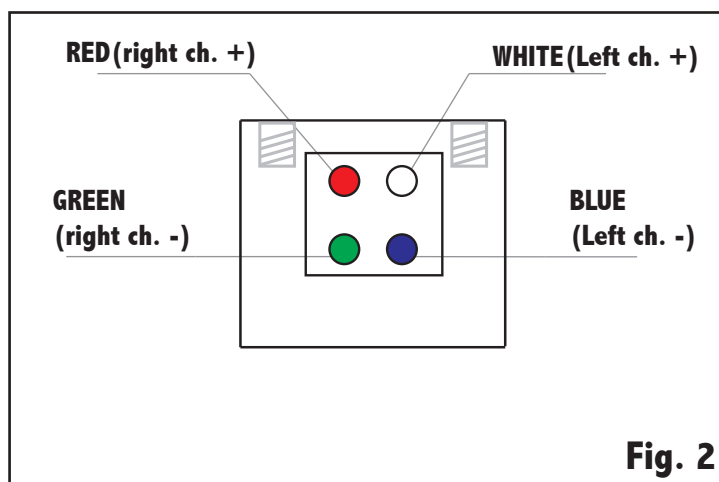

Fig. 2
- The output terminals are colours coded for identification as illustrated in Figure 2. Match the colors of the tone arm head-shell leads to the terminals and connect each other properly.